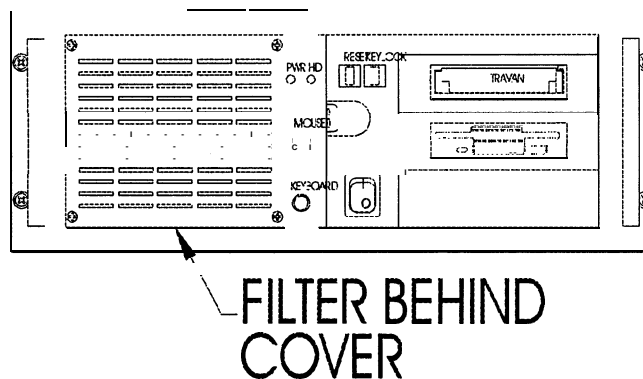

Figure 3-20. System Controller Fan Filter Covers
- a. System controller fan filters. (See Figure 3-20.)